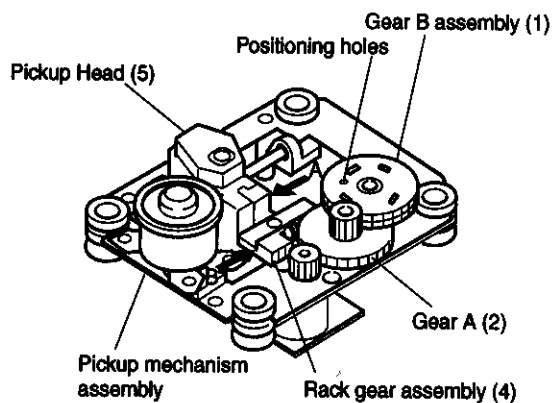

Fig. 4-1-10
2. Mount the gear B assembly (1) by pushing the pickup head (5) to the disc motor side (arrow A direction) and shifting the upper gear of the rack gear assembly (4) in the arrow B direction. Refer to Fig. 4-1-10.